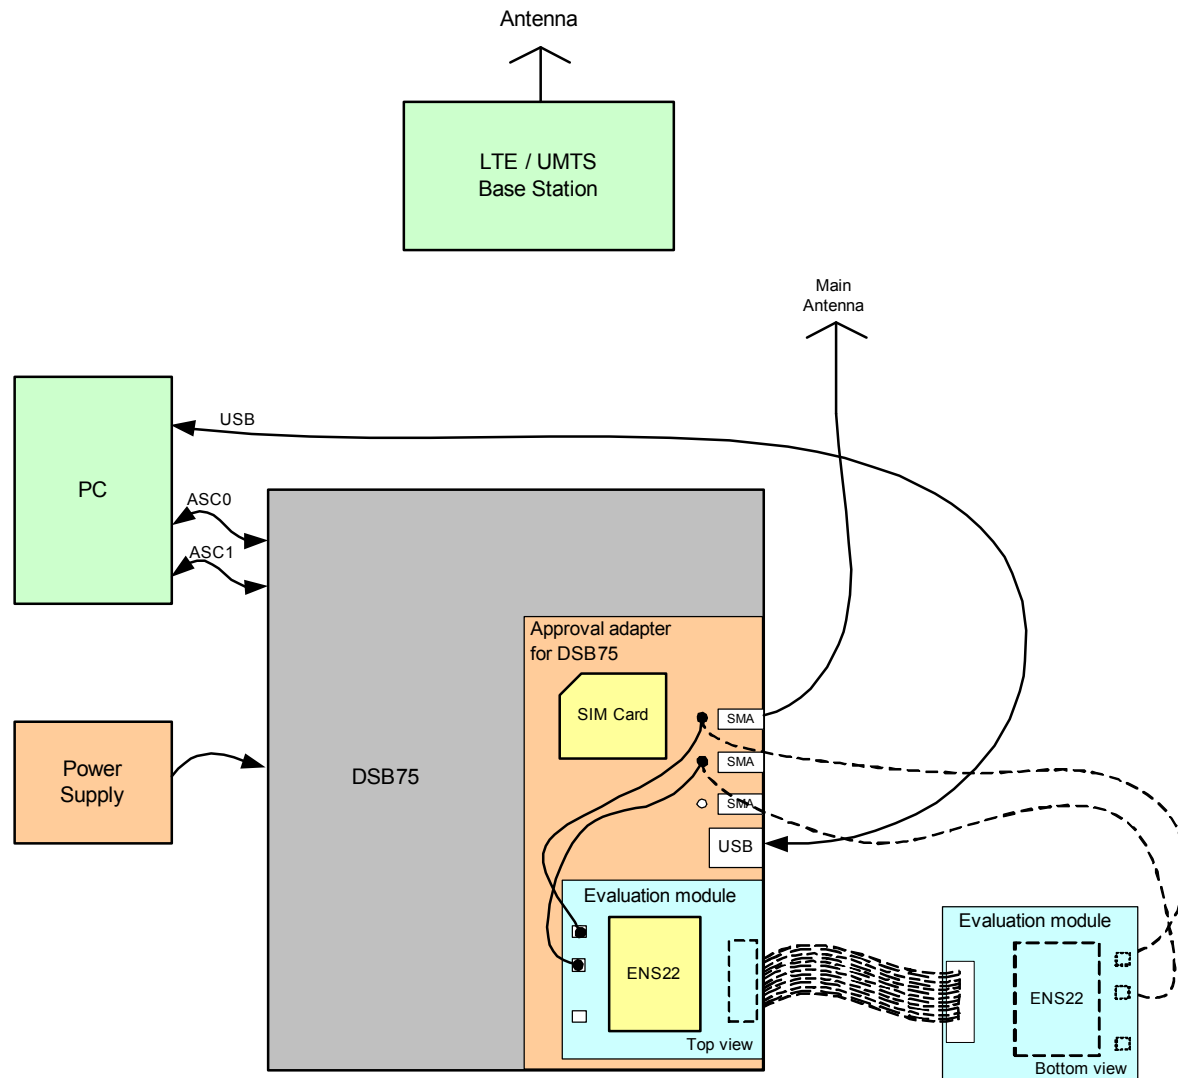

Figure 52: Reference equipment for Type Approval
1. For RF performance tests a mini-SMT/U.FL to SMA adapter with attached 6dB coaxial attenuator is chosen to connect the evaluation module directly to the UMTS test equipment instead of employing the SMA antenna connectors on the Cinterion® ENS22-E DSB75 adapter as shown in Figure 52. The following products are recommended: